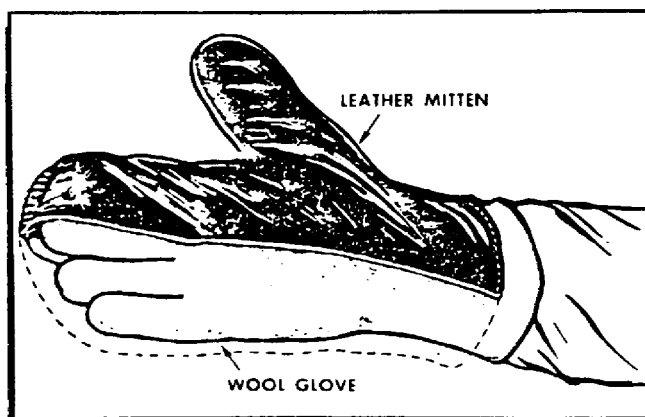

Figure 4. Layer system for hands.
(4) One or two pairs of wool gloves, mittens, or both should be worn inside a waterproof shell (Figure 4). When wearing more than one pair of gloves, ensure that each succeeding pair is large enough to fit comfortably over the other. If you have to expose your hands, warm them inside your clothing.
(5) All clothing made of wool offers good protection when used as an inner layer. When wool is used next to the face and neck, remember that moisture from the breath condenses on the surface and